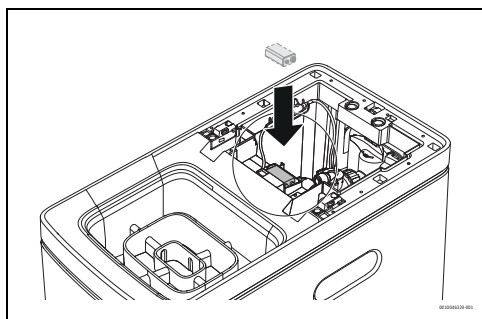

Fig. 8
2. Open the top cover and connect the 6LR61 9 V battery to the valve (→Fig. 8).